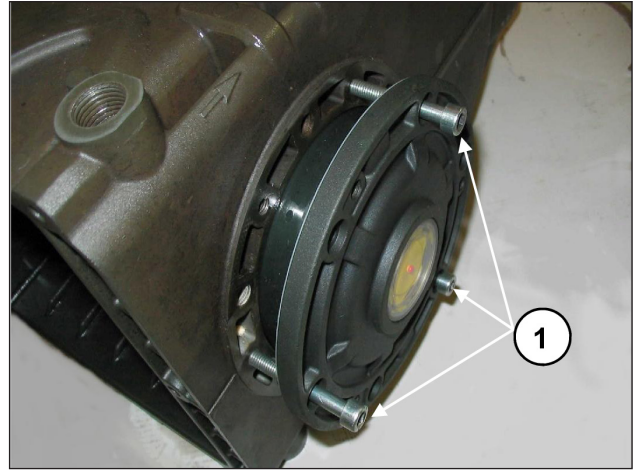

Fig. 8
To facilitate filling of the first section and relative press fitting of the covers on the casing, we recommend using 3 partially-threaded M6 x 40 screws (Fig. 8, pos. ①), then completing the operation with the screws supplied (M6x16).
To transition the two side covers closer to the casing, it is possible to use 3 M6x40 screws for the first positioning phase, as already indicated above Fig. 8, and the screws provided for final fastening.